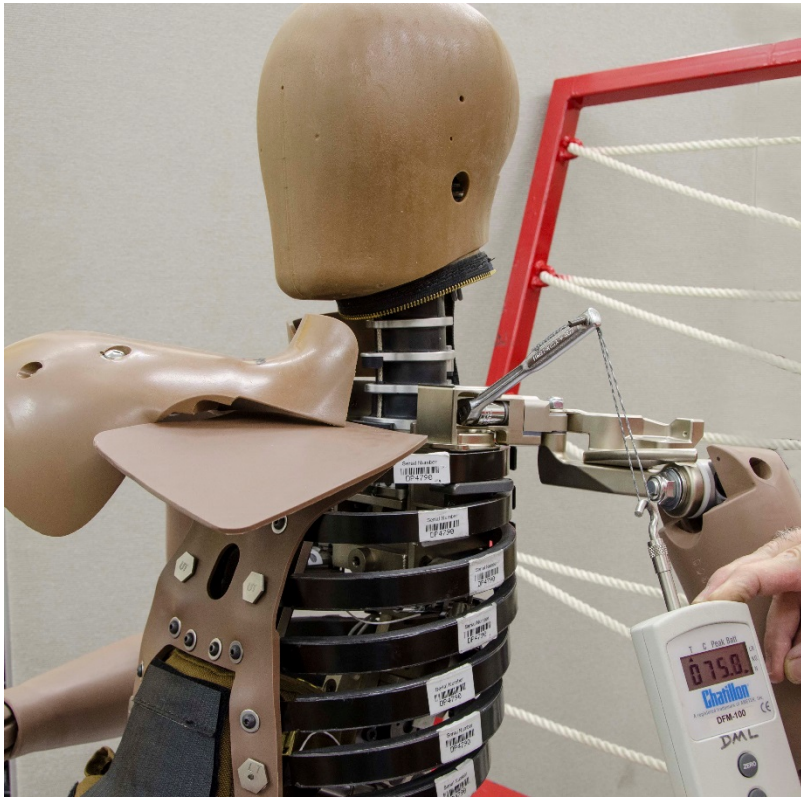

Figure 7-25. Shoulder pivot joint torque setting
- 7.3.1.6 Set the torque on the M8 x 1.25 mm nut under the forward ROM buffer to 10 N-m (Figure 7-25). Repeat for right arm.